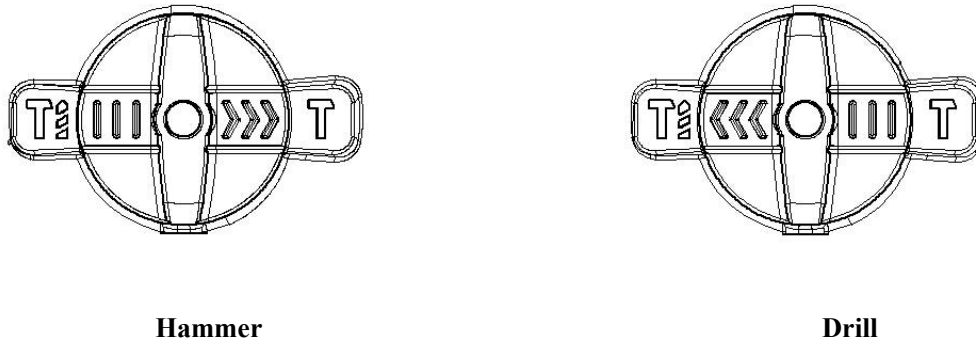
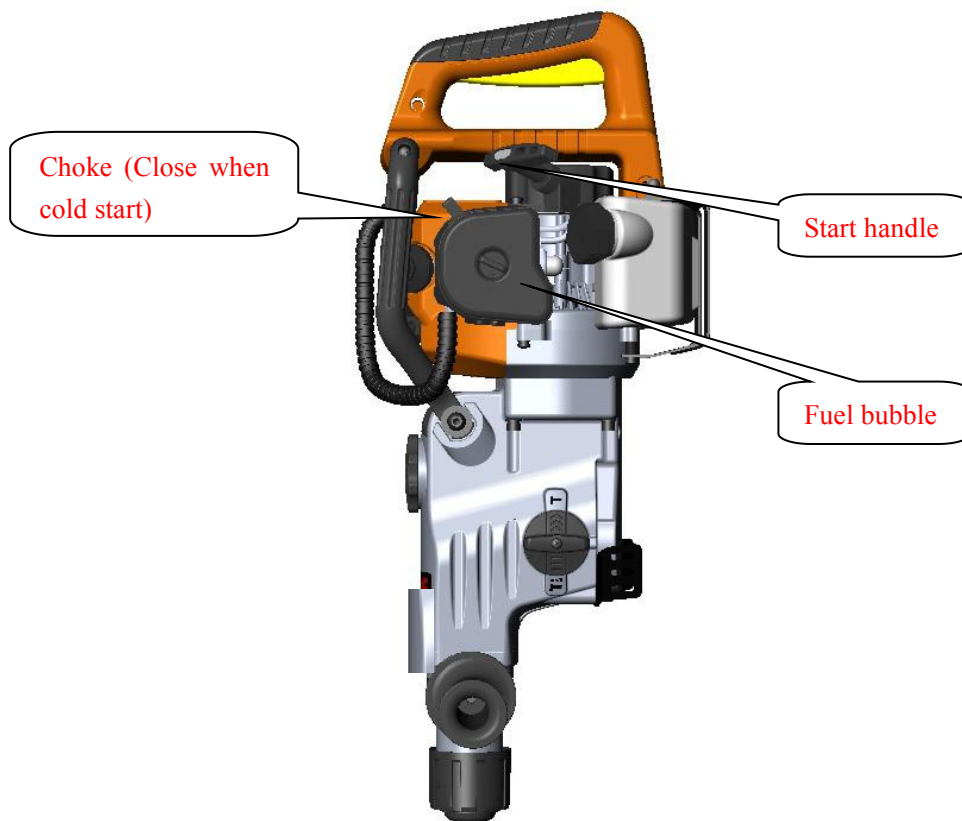

Figure 3
Figure 4
When switch from the hammer and hammer drill function knob in shown in “Figure 3”, rotate to receive the required operating mode. (note: must select operation mode under the condition of the engine stopped.)
**5.1** Before starting the new machine. Repeatedly press the transparent semicircular fuel oil bubble (Figure 3) to the status of full of fuel, fill the carburetor with fuel. (When the gasoline engine is cool, close the throttle; when the gasoline engine is hot, open the throttle.) (See Figure 4)
If the fuel filter blockage, machine speed decline, impact can be reduced. Methods: (1) open the lid of fuel can, with a metal hook the hook out of the can and clean fuel filter (2) when clean fuel filter, and clean fuel can as shown in Figure 4, 5 and 6.